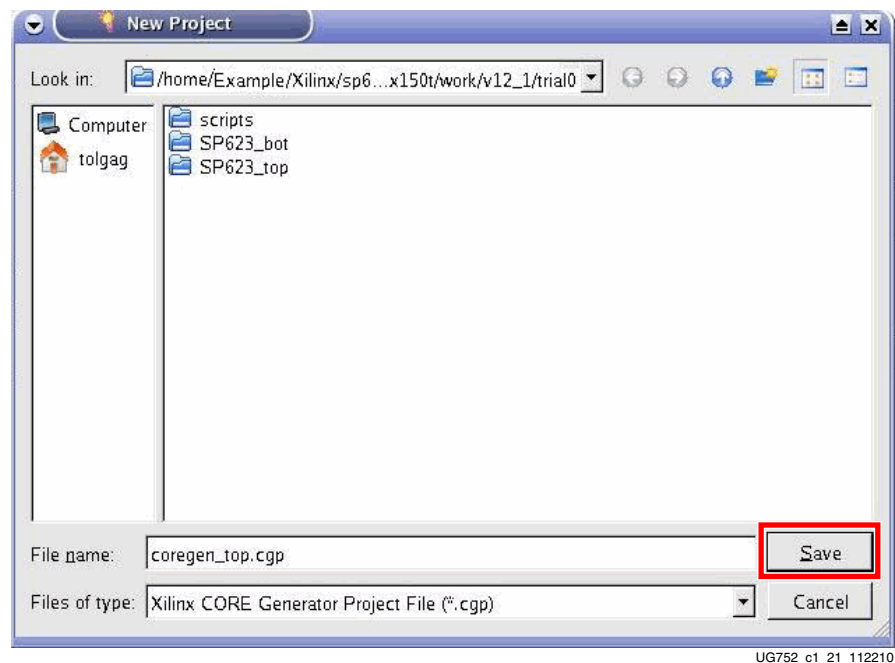

Figure 1-20: Save New Project
5. Name the project `coregen_top.cgp` and click **Save** (Figure 1-20). Note that for the “SP623\_bot” design, the project will be named `coregen_bot.cgp`.